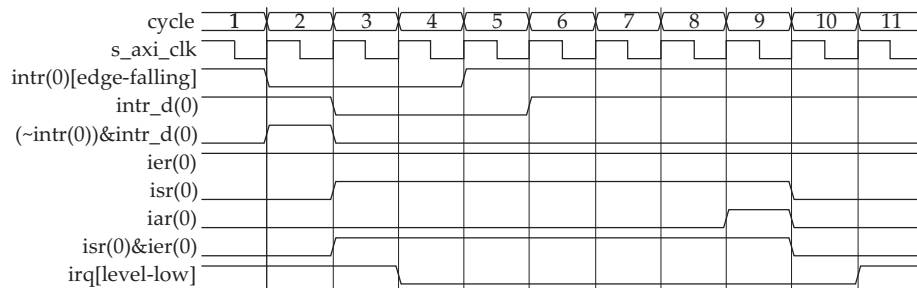

Figure 26: Input Intr - Edge Sensitive (Falling) and Output Irq - Level Sensitive (Active Low)
16. Configured Input Interrupt (Intr) for Edge sensitive (falling) and Output Interrupt Request (Irq) to Level sensitive (active Low) and is shown in Figure 26.